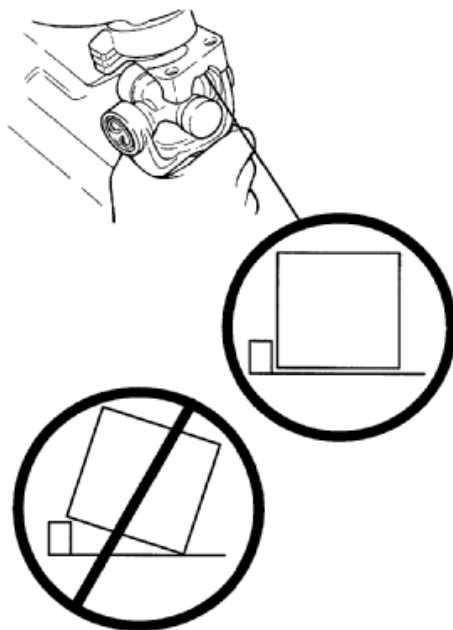

Figure 2 Insure Bearing Caps are Seated in Yoke
7. Install the new inter axle prop shaft, using new bearing straps, following Steps 1 to 4 in reverse order. Make sure the bearing caps are seated correctly (Figure 2). Tighten the bearing strap mounting bolts: